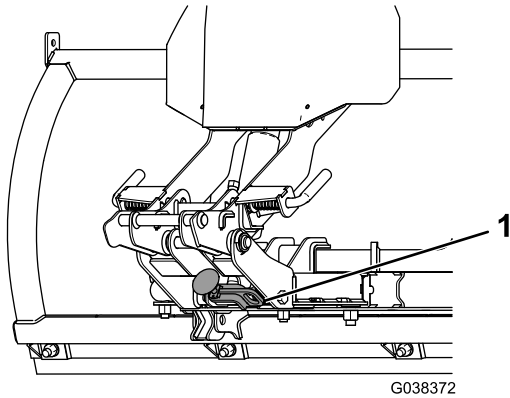

Figure 12
1. Pull the kickstand handle outward and rotate it, to lower the kickstand (Figure 12).